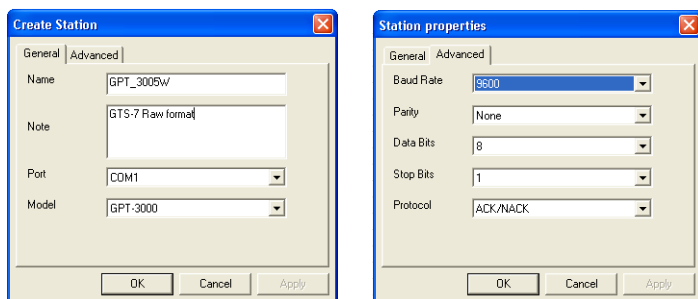

Figure 8-16. Total Station Properties
4. In the *General* tab of the **Create Station** dialog box, enter the following information and click **OK** (Figure 8-16).
- In the *Advanced* tab of the **Create Station** dialog box, enter the baud rate, parity, data bits, stop bits, and protocol used for communication with the TS (Figure 8-16).